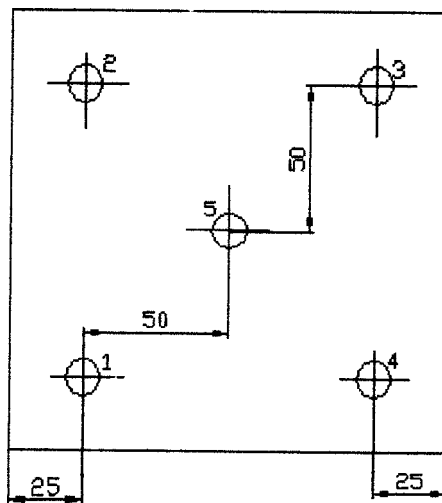

Fig. No. 1
- Write a part program to drill the holes shown in Fig. No. 1.